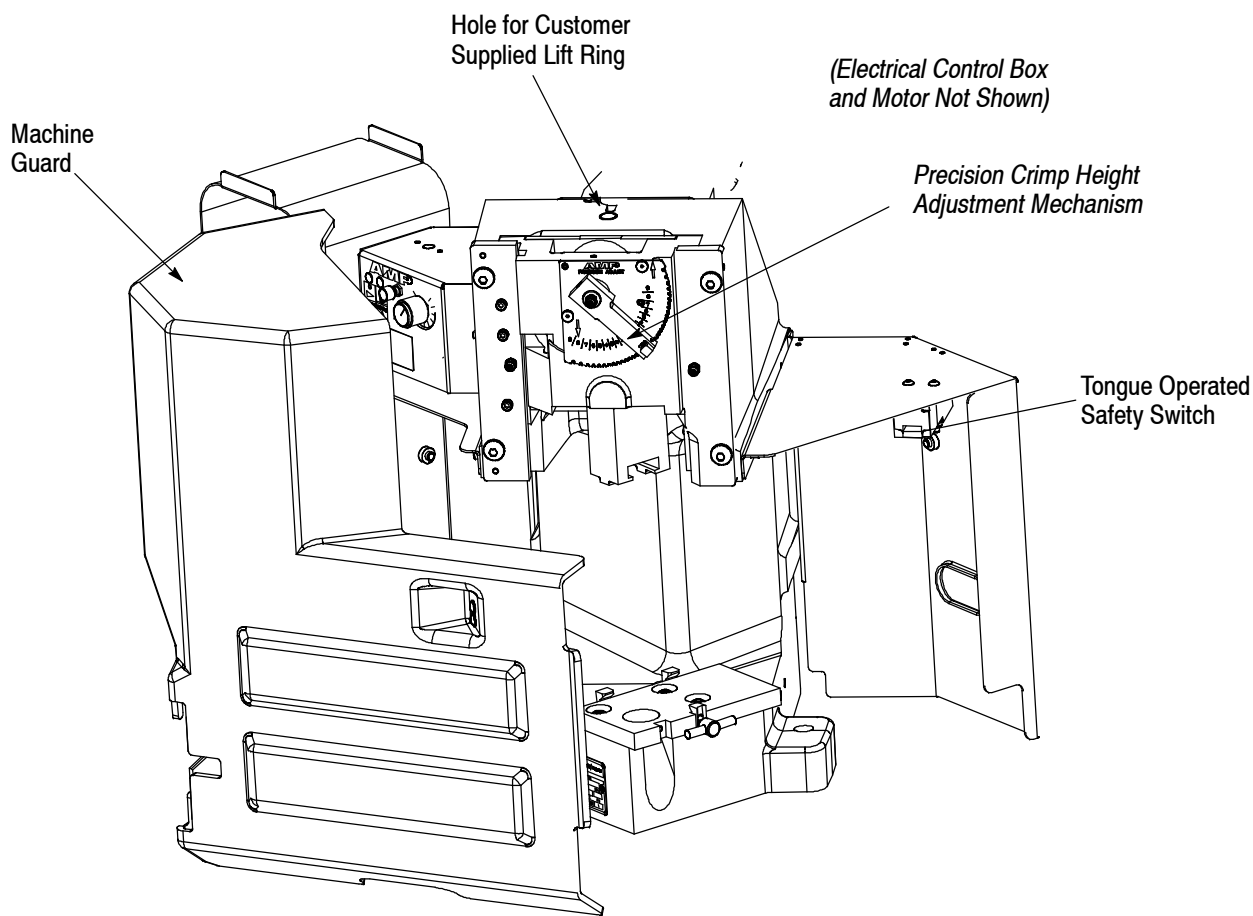

Figure 7
2.3. Machine Guard (Figure 7)
Remove all mounting bolts securing the machine to the shipping pallet. Install lift ring (see Figure 7) on top of the machine.